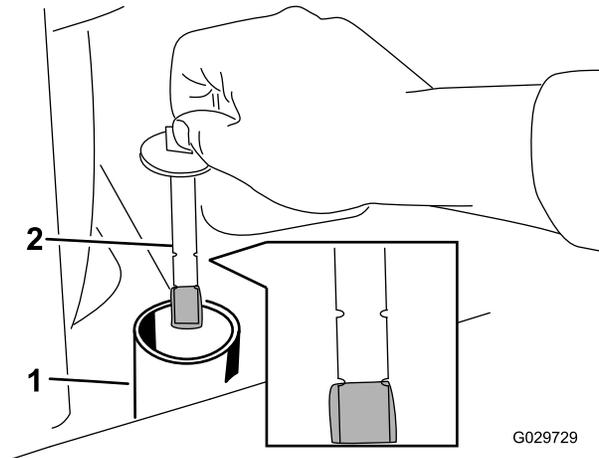

Figure 59
6. Remove the hydraulic-tank cap and dipstick (Figure 59).